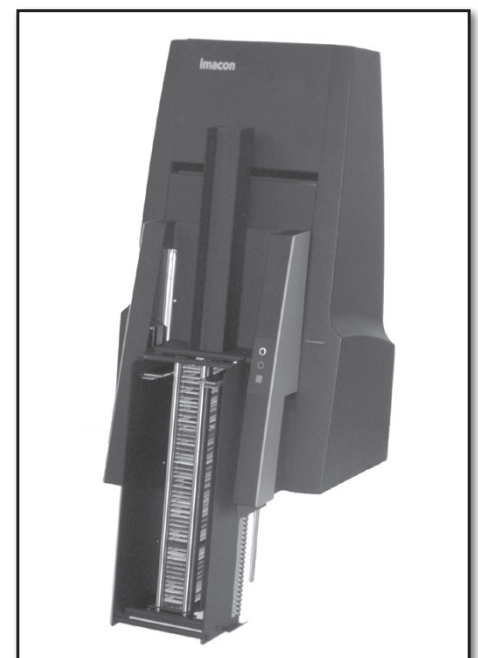

Figure 7:
20. The Slide Feeder is mounted and ready for use (see Figure 7).